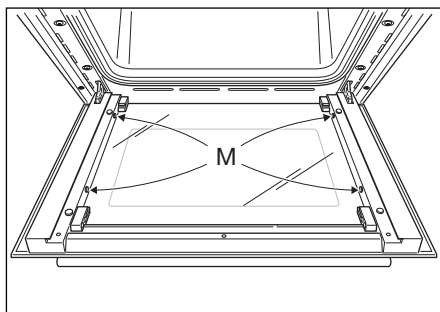

Fig. 42a
- Check that the four rubber pads are in place ("M" in Fig. 42a).